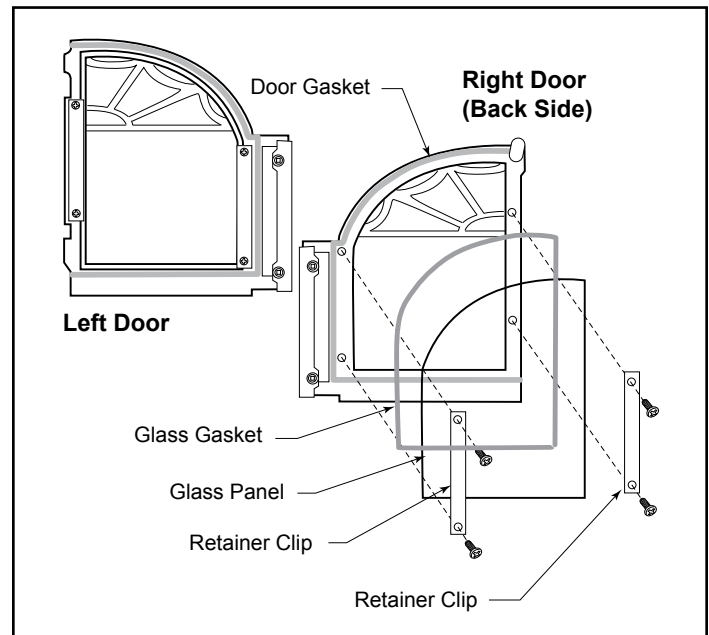

Fig. 42 - An exploded view of the glass assembly.
2. Secure the glass on both doors with the retainer clips. Tighten all screws. (Fig. 42)